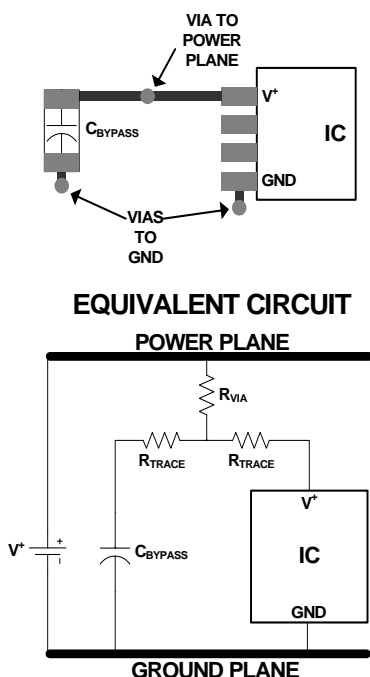
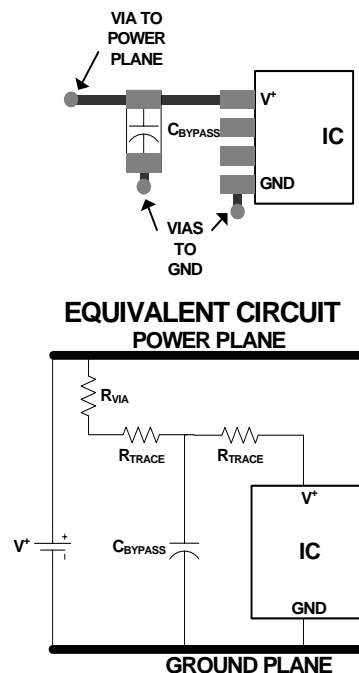

FIGURE 12. SUB-OPTIMAL BYPASS CAPACITOR LAYOUT
FIGURE 13. OPTIMAL ("T") BYPASS CAPACITOR LAYOUT
- Ideally each supply should be bypassed to ground with a  $0.1\mu\text{F}$  capacitor. Minimize trace length and vias to minimize inductance and maximize noise rejection. Figure 12 demonstrates a common but non-ideal PCB layout and its equivalent circuit. The additional trace resistance between the bypass capacitor and the power supply/IC reduces its effectiveness. Figure 13 demonstrates a better layout. In this case there is still series trace resistance (it is impossible to completely eliminate it), but now it is being put to good use, as part of a "T" filter, attenuating supply noise before it gets to the IC, and reducing the amount of IC-generated noise that gets injected into the supply. Follow the good supply bypassing rules shown in Figure 13 to the extent possible.